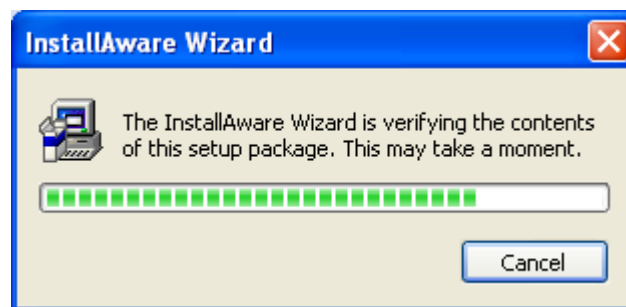
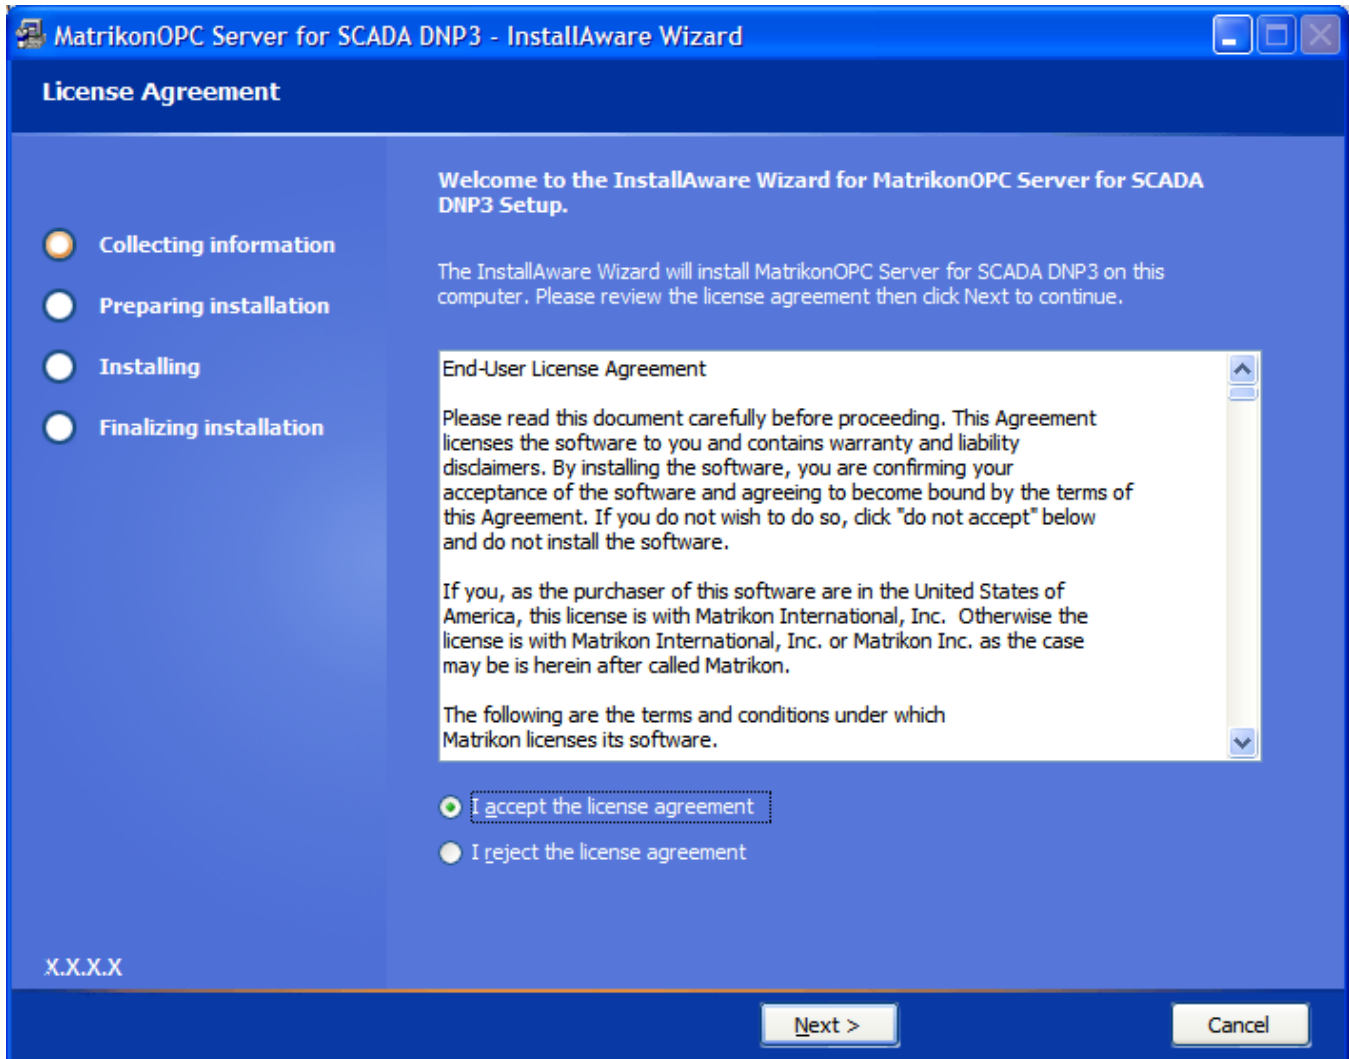

Figure 1 - InstallAware Wizard Verification Window
Figure 2 - License Agreement Screen
The *User's Manual* has been designed so that you can click on references in the document to jump to that referenced point without having to scroll through several pages (in some cases). For example, if you were to see the sentence "Refer to Figure 1 for more information", pressing the **CTRL** key and clicking your mouse on the text "Figure 1" will automatically take you to the location of Figure 1 within the document.
2. If the MatrikonOPC **Welcome** screen does not automatically appear, double-click the *MatrikonOPCSCADADNP3.exe* file. The **MatrikonOPC Server for SCADA DNP3 – InstallAware Wizard** verifies its contents (Figure 1) and the **License Agreement** screen (Figure 2) appears.